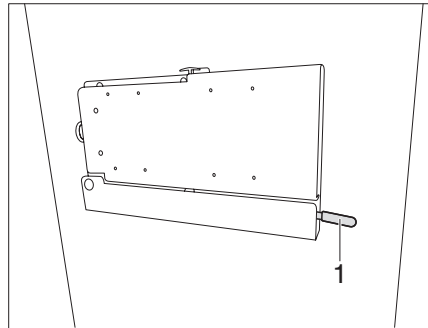

Fig. 70 Bracket with jointed arm (Variant 3)
- Pull down the lever (Fig. 70,1).
- Push the lever (Fig. 70,1) back up to lock.